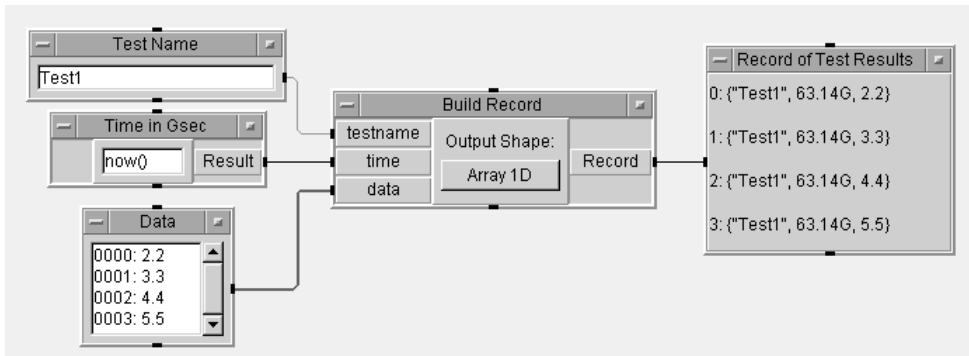
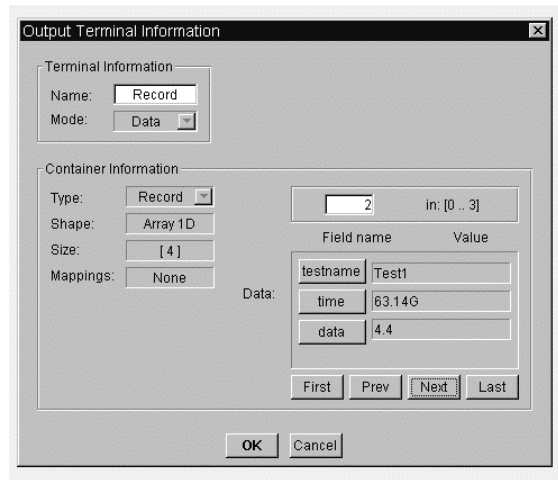

Figure 7.1. Data output of three types on a record
Figure 7.2. The Record Output pin information; data selection
18. Run this program; it should match the results Figure 7.1.
19. Double-click on Build Record output pin (Figure 7.2); click each rectangle under the Value: column of the Data: box (First, Prev, Next, Last) and compare Figure 7.2 with Figure 7.1; click OK when done.